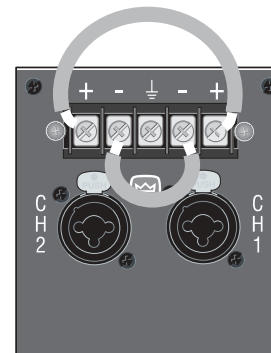

Figure 2.10 Jumper Placement to Parallel the Inputs
2. Feed your signal to the Channel-1 input (either barrier-block or combo). Connect a jumper wire (Figure 2.10) between the barrier-block Channel-1 (+) screw terminal and the Channel-2 (+) screw terminal. Connect another jumper wire between the Channel-1 (-) screw terminal and the Channel-2 (-) screw terminal.